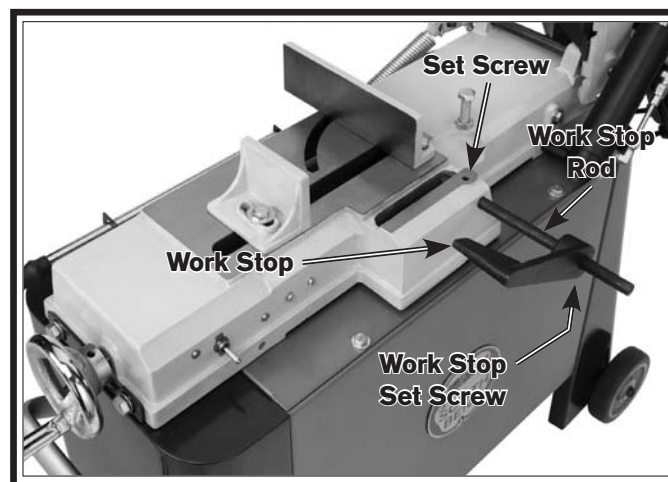

Figure 36. Downfeed rate controls.
1. Insert the work stop rod into the machine base (as shown in **Figure 36**), then tighten the set screw to secure it.